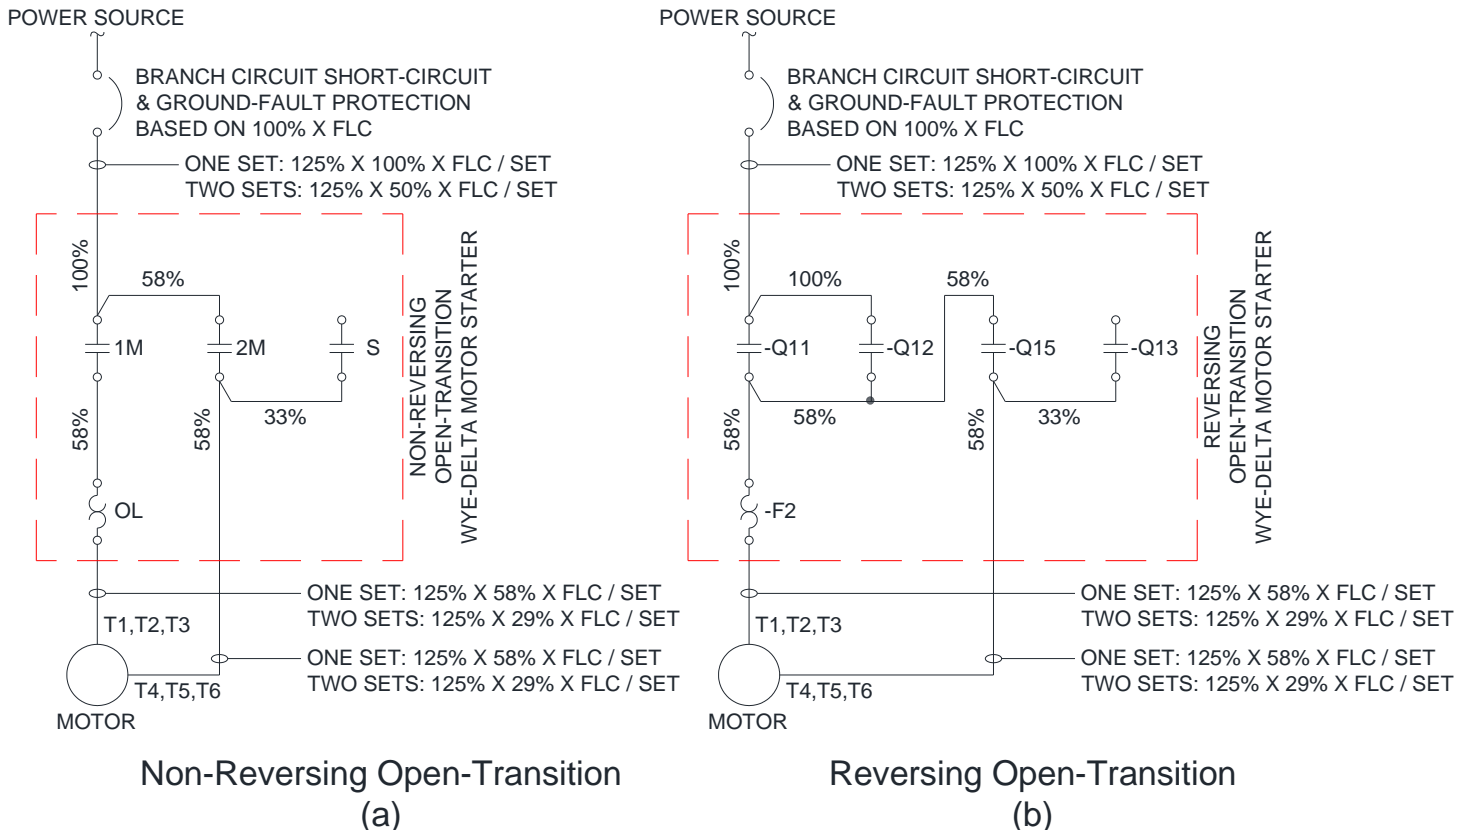
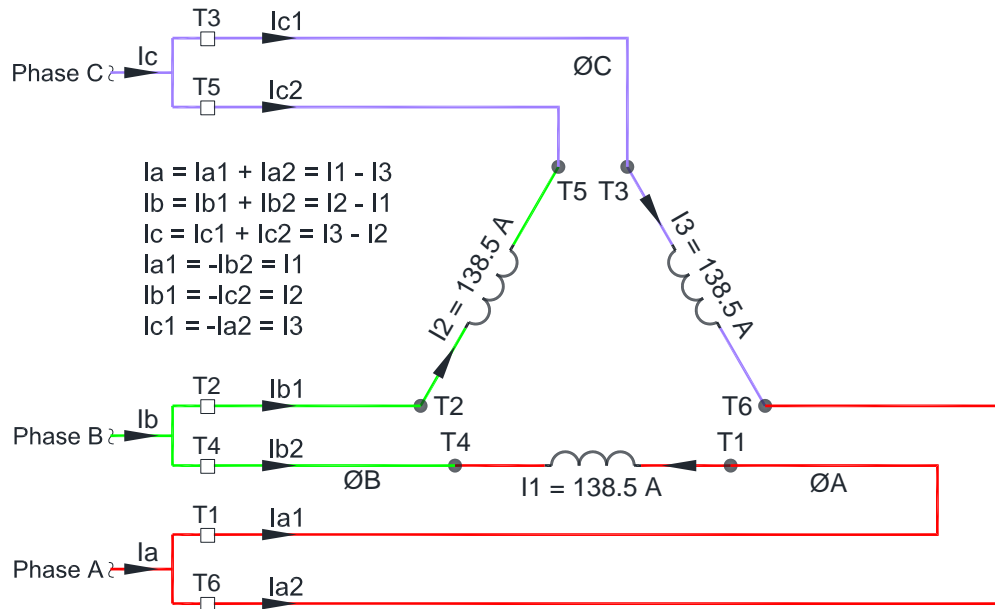
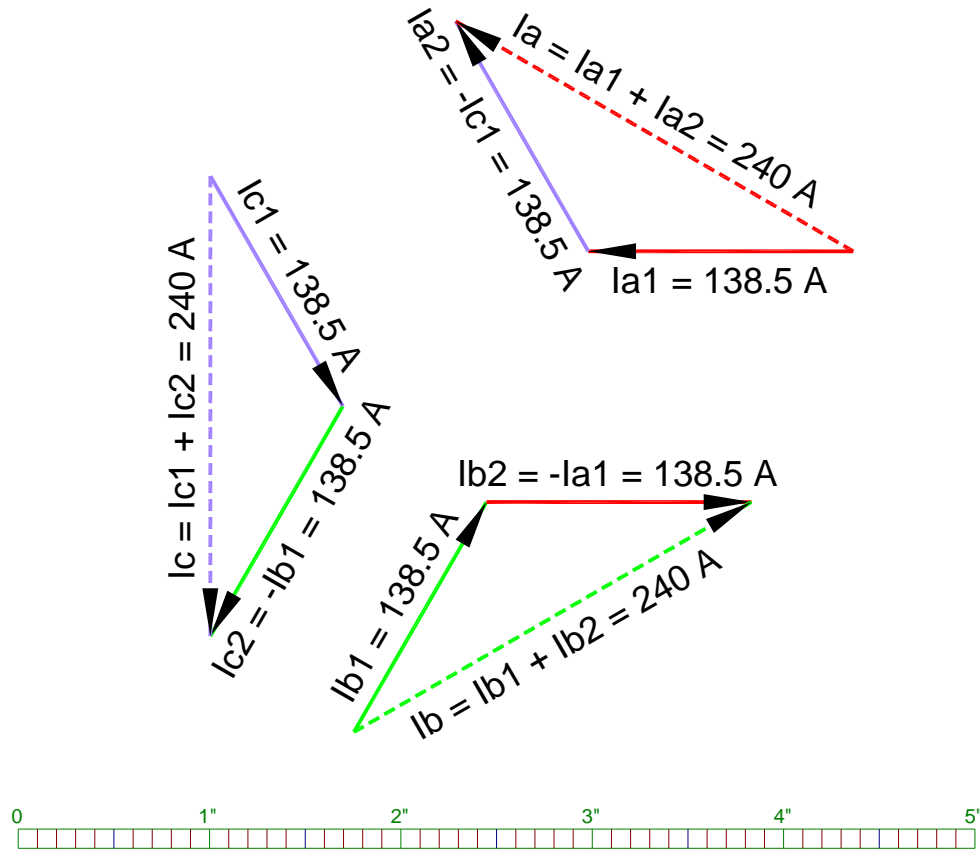

Figure 38 – Sizing Components for Open-Transition Wye-Delta Starters
Figure 39 – Line Currents Going to a Delta-Connected Six-Lead or Twelve-Lead Motor at 480V, Three-Phase
Figure 40 – Line Currents Going to a Delta-Connected Six-Lead or Twelve-Lead Motor at 480V, Three-Phase
The sizing requirements for the entire power circuit, from the branch-circuit protective device (fuses or circuit breaker) to the motor, will be presented in this section, but we will start with the motor and work backwards to the power source. Figure 38 shows an overview of the entire power circuit for non-reversing and reversing open-transition wye-delta motor starters. The branch-circuit short-circuit & ground fault protection device is typically a circuit breaker or set of three fuses. In the case of motor control centers or combination starters, this fuse or circuit breaker is mounted in the same bucket, compartment, cubicle, or enclosure as the wye-delta motor starter.
The reason that some of the conductor, contactor, and thermal overload sizes are different for wye-delta motor starters compared to full-voltage motor starters is because the three windings of a wye-start/delta-run motor are actually three single-phase loads. These three single-phase loads aren't perceived as a single three-phase load until the point where motor terminal T1 connects to T6, T2 connects to T4, and T3 connects to T5. As can be seen in Figure 38, this happens on the line side of contactor 1M for a non-reversing wye-delta motor starter, but on the load side of contactors –Q11 and –Q12 for reversing wye-delta motor starters. See Table 2 on page 8 for the IEC equivalents of the NEMA motor terminal designations T1 through T6.
In Figure 38, it might be incorrectly inferred that the branch-circuit short-circuit and ground-fault protection device should be selected to be equal to 100% of the motor's full-load current, but that is not the case. The size of this circuit breaker or set of fuses will vary, depending on the type of device that is chosen, but should be selected from the circuit breaker or fuse manufacturer's catalog based on 100% of the motor's FLC, limited to the maximum rating permitted by NEC Table 430.52. For example, a 200 Hp motor at 480 V has a full-load current of 240 A. A typical Class J time-delay fuse selection for this motor would be rated at 350 A. This is within the upper limit of $240 \text{ A} \times 175\% = 420 \text{ A}$ that is required by NEC Table 430.52.
In previous examples, such as those shown in Figure 13 on page 17 and Figure 16 on page 20, we have said that the full-load current flowing to a wye-start/delta-run motor starter for a motor connected in the delta configuration is equal to the full-load current shown in Table 430.250 of the NEC. For example, a 200 Hp wye-delta motor would have 240 A flowing to the starter when wired in the delta configuration at 480 V, three-phase. Let's now discuss the fact that there are six power conductors, not three, going to the wye-delta motor downstream from this starter. It might seem that the 240 A full-load current would be divided equally across the two conductors per phase to give us 120 A in each of the conductors going to the motor from each of the three phases of the power supply, but it is a little more complicated than that. The 240 A per phase is actually composed of two 138.5 A current vectors that are 120° out of phase with each other, as illustrated in Figure 39 and Figure 40.
In Figure 39, the current vector I_a , which is the current from phase A of the power source, is composed of current vectors $I_{a1} + I_{a2}$, which can be restated as $I_{a1} - I_{c1}$ or $I_1 - I_3$. The two current vectors per phase are shown in Figure 40 below. This split or change from current vector I_a to the two current vectors I_{a1} and I_{a2} occurs wherever the two conductors per phase are connected together, which typically happens at the line terminals of the power contacts of contactor 1M for non-reversing wye-delta motor starters, or on the load side of the power contacts of contactors –Q11 and –Q12 for reversing wye-delta motor starters, as shown in Figure 38.
There are intervening components between Phase A and terminals T1 & T6 in Figure 39, such as contactor power contacts, but these components are not shown, for the sake of simplicity. This also applies to the other two phases, of course.
Notice that Figure 40 looks very similar to Figure 15 on page 19, but the shorter vectors in Figure 40 are being added together, instead of head-to-head as in Figure 15, since the vectors in Figure 40 are being added together, rather than subtracted. The vectors in both figures are the same, they are just relabeled as listed at the left side of Figure 39. For example, $I_{a1} = I_1$ and $I_{a2} = -I_3$, so I_a is still defined as $I_a = I_1 - I_3$.
See NEC 430.22(C) for conductor sizing from the power source to the starter. When the wye-start/delta-run motor is running in the delta configuration, the current in the power conductors from the branch fuses or circuit breaker to the starter is the same three-phase current that would be going to a 'normal' three-phase motor. Therefore, the power conductors from the branch-circuit fuses or circuit breaker should be based on NEC430.22(C), which requires 125% * the motor's FLC, as shown in Figure 38(a) and (b) on page 50.
Short-Circuit and Ground-Fault Protective Device: As seen in Figure 38 on page 50, the ground-fault and short-circuit protection for a wye-delta motor starter is based on 100% of the motor's FLC, since the power source sees the wye-start/delta-run motor as a 'regular' delta motor when it is running in the delta configuration. The size or rating of the fuses or circuit breaker used as the ground-fault and short-circuit protection will vary on the type selected, chosen per NEC Table 430.52.
Overload Protective Device: As can also be seen in Figure 38 on page 50, the thermal overload units, sometimes known as heaters, for wye-delta motor starters are to be selected based on 58% of the motor's full-load current, rather than on 100% of the motor's FLC in the case of a full-voltage motor starter. This is specifically mentioned in the last paragraph of NEC 430.32(A)(1). The size of the selected heaters will vary with different manufacturers. Sometimes, the motor starter manufacturer's catalog will have a separate column on the overload selection chart, or possibly a separate chart, to assist in the proper overload selection for wye-delta motor applications, in which case, multiplying by 58% has already been done for you.